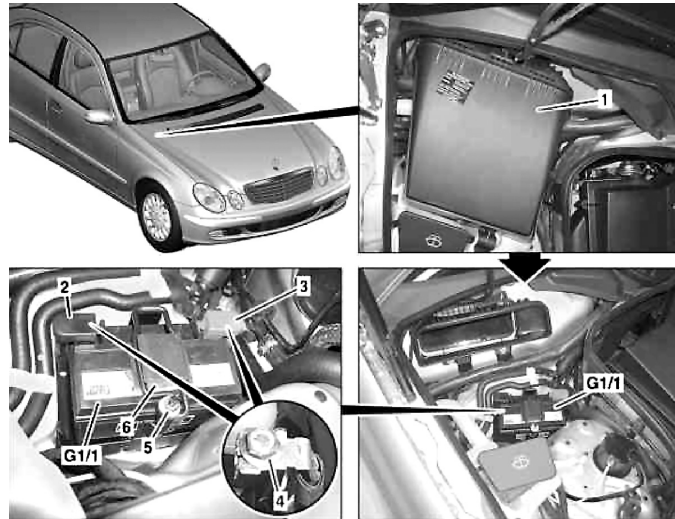

Fig. 2 Auxiliary battery removal
6. Remove housing (1), Fig. 2.
7. Open ground terminal cover (2) of auxiliary battery (G1/1), Fig. 2.
8. Remove bolt (4) of ground line, and remove ground line, Fig. 2.
9. Open positive terminal cover (3) on auxiliary battery (G1/1), Fig. 2.
10. Remove bolt (4) from positive line, Fig. 2.
11. Remove nut (5) and fold bracket (6) upward, **Fig. 2**.
2. Install nut (5) and fold bracket (6) downward, **Fig. 2**.
8. Install housing (1), **Fig. 2**.